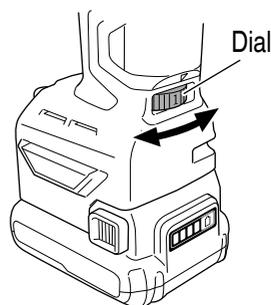

Fig. 13
8. Adjusting the oscillation speed adjustment dial (**Fig. 13**)